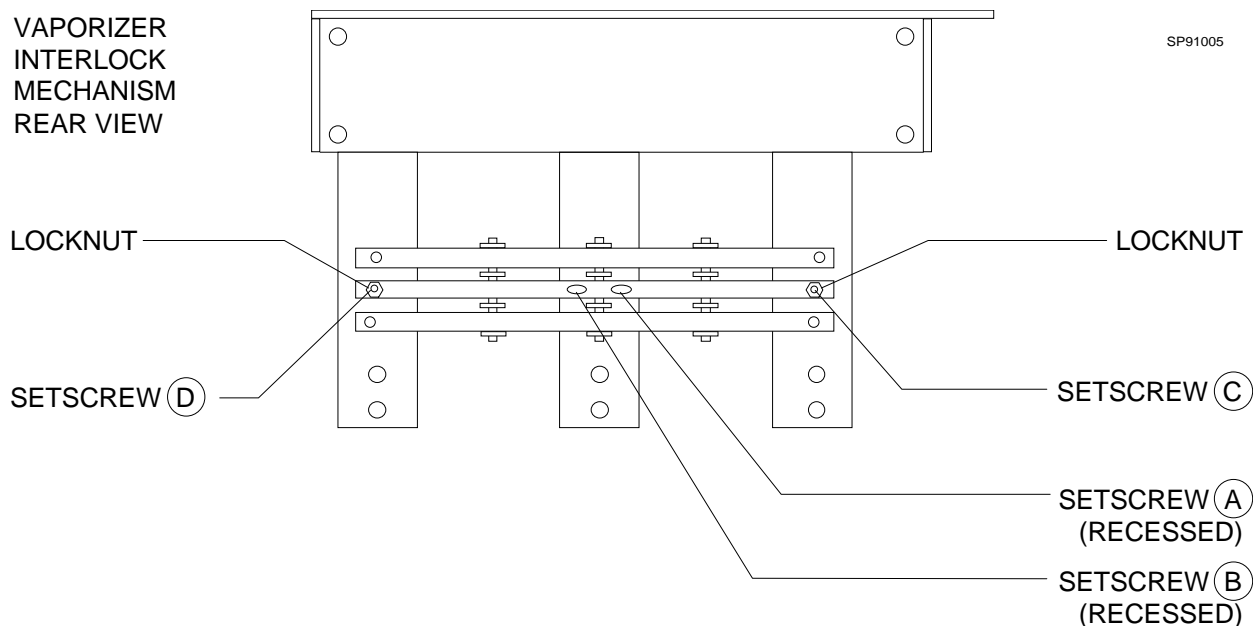

Figure 4: VAPORIZER INTERLOCK ADJUSTMENT
3. Depress the "0" button on the center mounted vaporizer and verify that the vaporizer can not be turned on. Also verify that there is a minimal amount of "free play" in the handwheel and the interlock mechanism. If adjustment is required, tighten set screw **A** (see Figure 4) until the vaporizer locks without "free play".
6. Loosen the lock nut securing set screw ③ or ④ on the long pivot arm (see Figure 4), and back out the set screw several turns.
- 10A. Loosen the lock nut securing set screw ③ or ④ on the long pivot arm (see Figure 4), and turn in the set screw $\frac{1}{2}$ revolution clockwise.
15. Back out set screw Ⓑ several turns. See Figure 4.